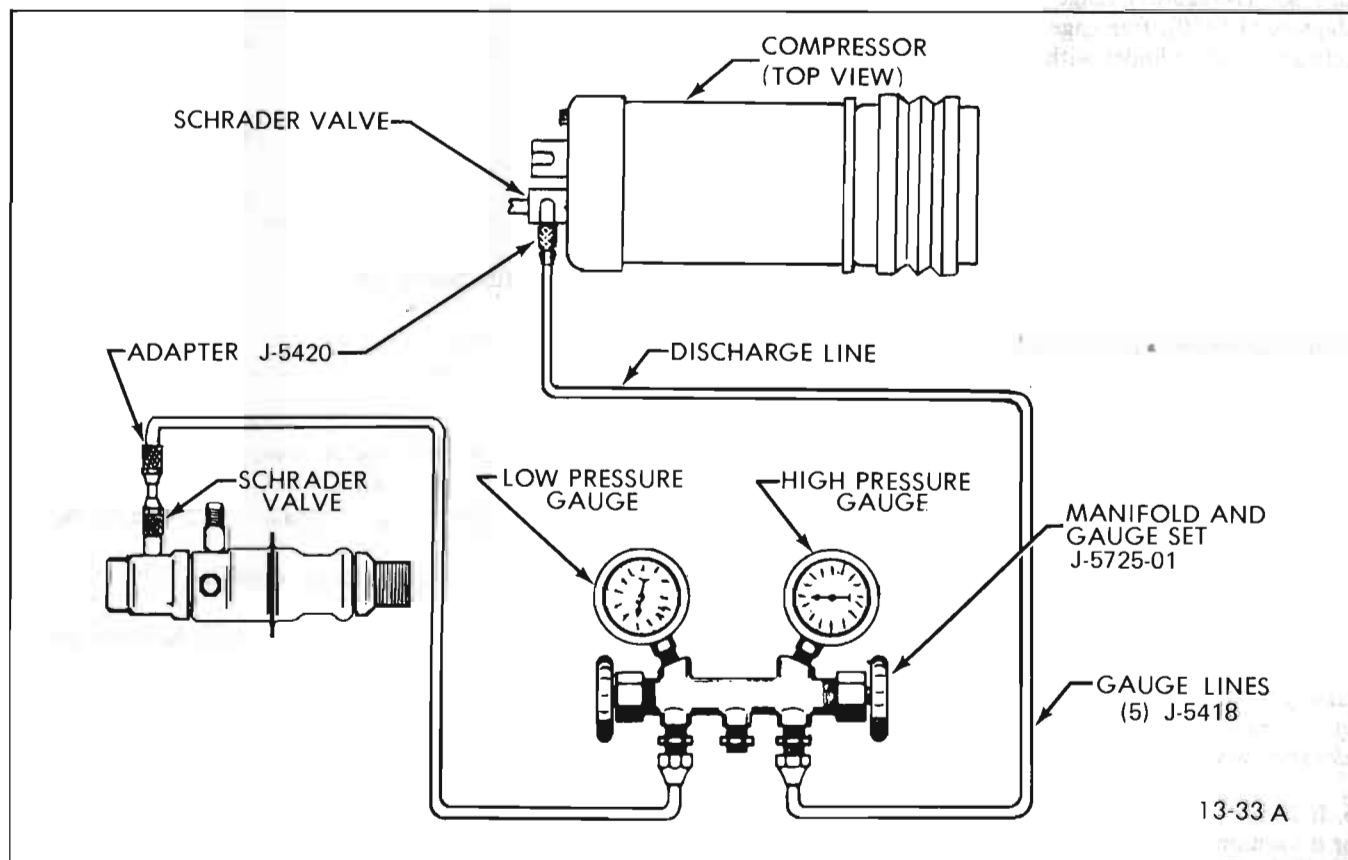

Figure 13-13 Set-Up for Discharging System
2. Install Adapters (J-5420) onto each Schrader valve, see Figure 13-13, and connect a Gage Charging Line (J-5418)